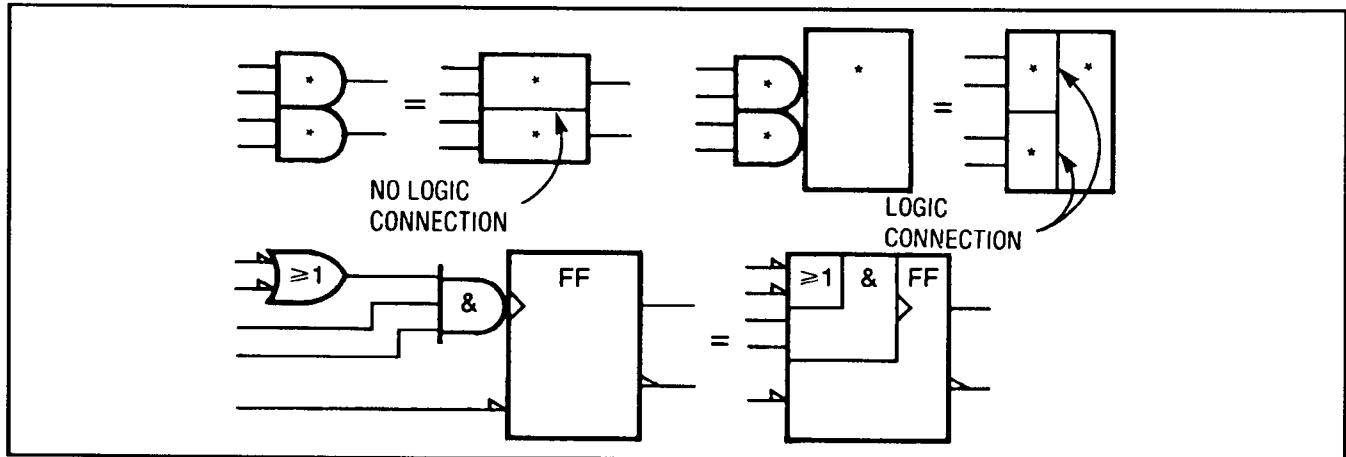

Figure 8-3. Contiguous Blocks
**Contiguous Blocks.** Two symbols may share a common boundary, parallel or perpendicular to the direction of the signal flow. Note that in the examples shown in figure 8-3, there is generally no logic connection across a horizontal line, but there is always an implied logic connection across a vertical line. Notable exceptions to this rule are the horizontal lines beneath control blocks and between sections of shift registers and counters (dividers).